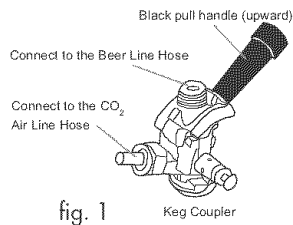

fig. 1
1. Make sure the black pull handle of the keg coupler is in the closed (up) position before installing it on the beer keg. Insert the keg coupler into the locking neck of the beer keg and turn clockwise 1/4-turn to lock it into position. (see fig. 1)